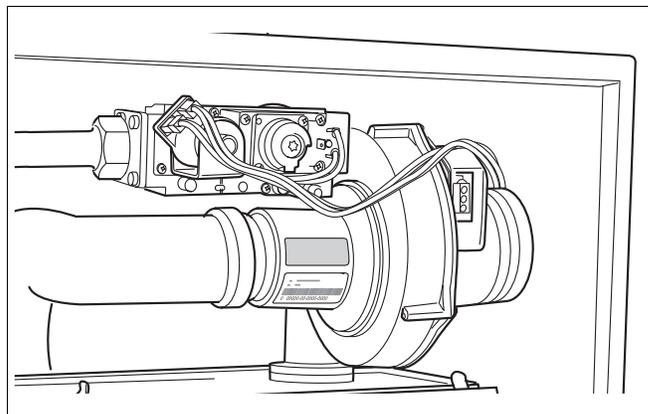

Fig. 55 Checking the gas classification label
- Check that the actual gas supply is in accordance with the type of gas supply specified on the gas classification label (fig. 55).